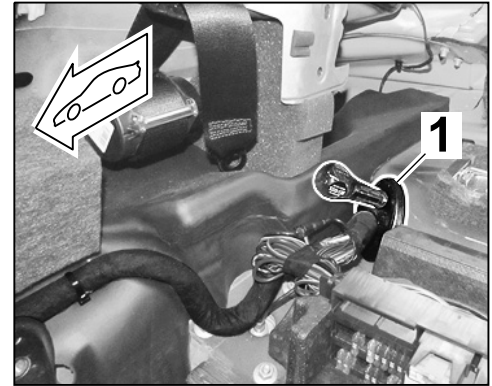

Figure 23
- 4.1 Punch grommet ⇒ *Figure 23 -1-* in the passenger compartment.